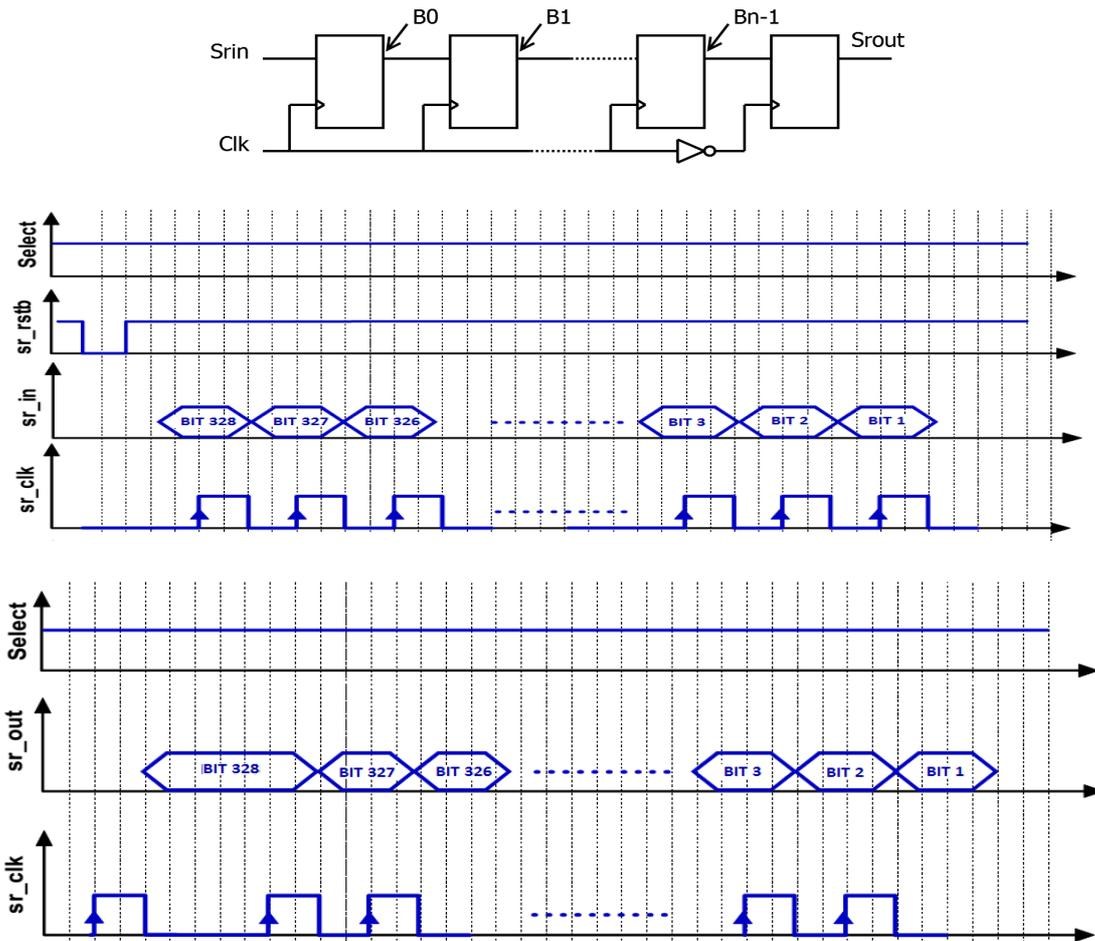

Figure 4 Slow control schematic and chronogram
The slow control (SC) register is used to load the ASIC configuration parameters. It is a shift register composed of n flip flops (n = 328 in CATIROC: Bit 1 = enable_input_test_ch0 and Bit 328 = switch_2mA_inTX_bias). Data (pin168 : srin_sr) are stored in flip flops on leading edge of the clock (pin 162 : clk_sr) and shifted at each clock cycle as seen on figure 4. (Bit 1 is the last bit sent and Bit 328 the first one). Sending twice, the data could be verified by reading pin 157 (srout_sr). A reset command (pin 165 : rstb_sr,) active on low level, loads the default value on each parameter (see table 3).